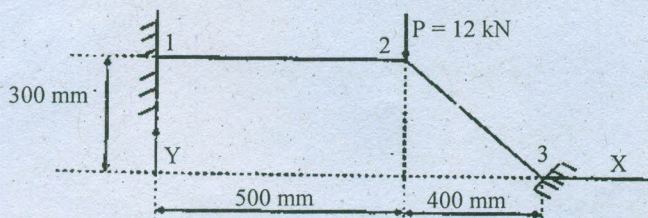

Figure 12 (a).
12. (a) Determine the nodal displacement, element stresses and support reactions in the truss element shown in figure 12 (a). Assume that points 1 and 3 are fixed. Take $E = 70 \text{ GPa}$, and $A = 200 \text{ mm}^2$